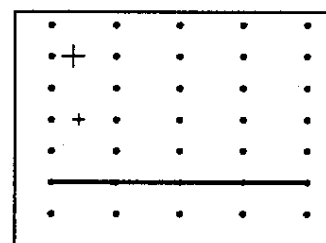

Fig. 6-2-8
- h. Adjust the "+" mark to the a scale interval by using TRACKBALL. For example, using the interval shown in Fig. 6-2-8, a "2" would be inputted via the keyboard.